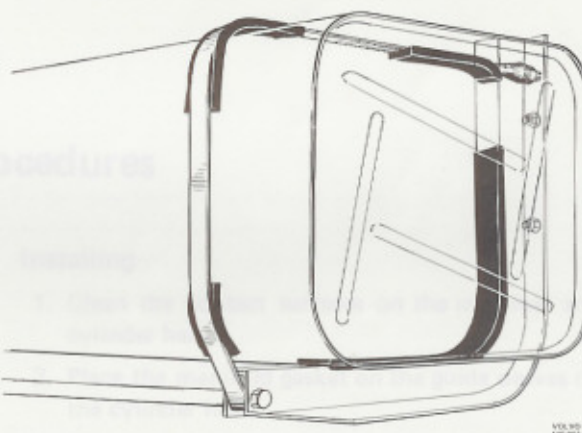

Fig. 23-36. Installing the fuel tank
2. Bend up the tensioning band and fit the retaining nuts. **Note** the location of the rubber strips, Fig. 23-36.